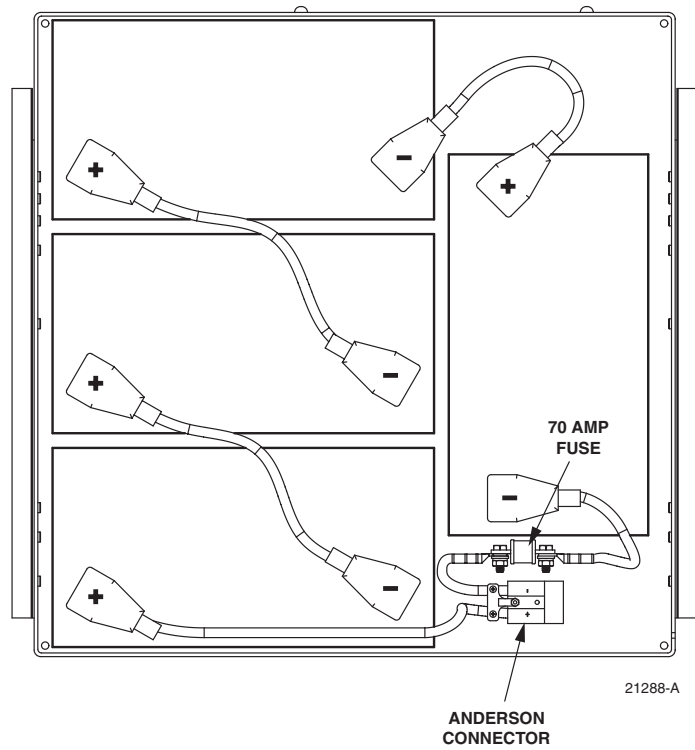
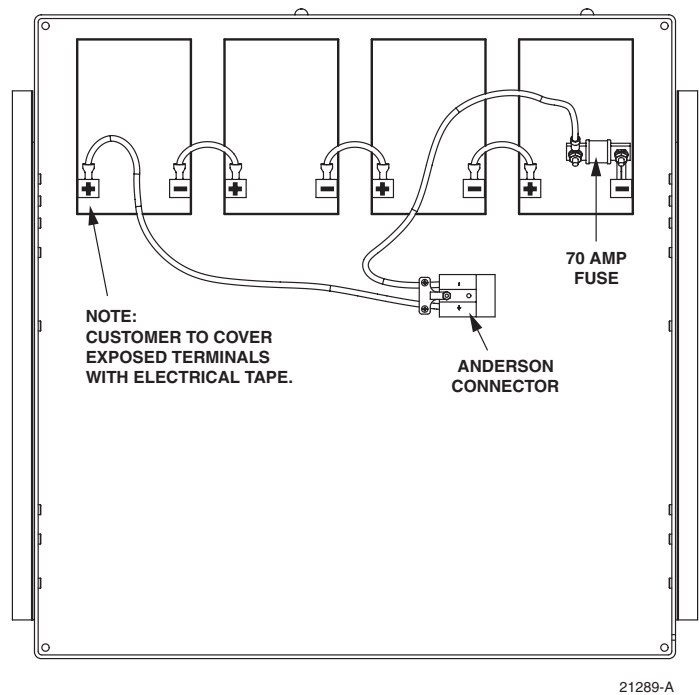

Figure 36. Extended Batteries in Drawer
Figure 37. Glitch Batteries in Drawer
6. Install the batteries in the drawer as follows, referring to Figure 36 for extended batteries and Figure 37 for extended batteries: